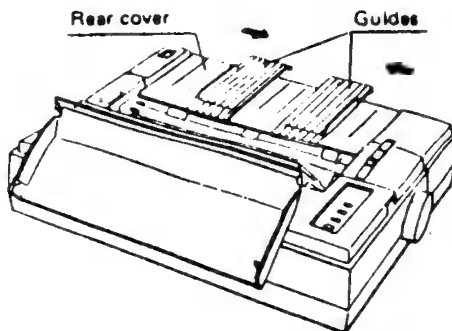

Figure C-3 Install the Rear Cover
7. Re-install the rear cover and move the Guides to the center of the cover, as shown in Figure C-3.